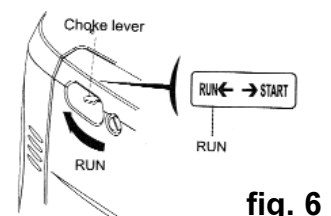

fig. 6
- 3.2.6 After the engine has warmed up, move the choke lever to the RUN position. Refer to fig. 6.